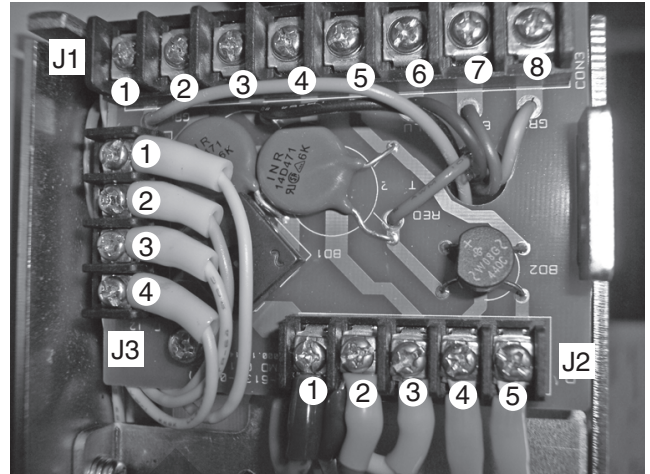

Figure 2. PCB 1 (Utility) Layout
2. For testing purposes, please follow the PCB numbering shown in Figures 2 and 3.